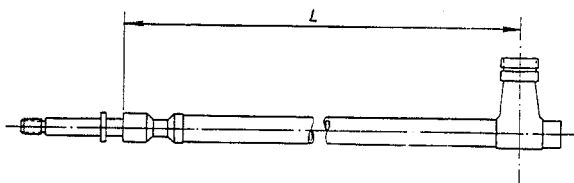

Fig. G 15/10
10. Grease pressure spring liberally and push into the shift tube. Fill bore in pilot journal with grease and insert journal with cup-shaped pin installed so into the shift tube that the countersunk portion of the bore is on the side where the opening for the hand gear shift lever is provided (see Fig. G 15/11).